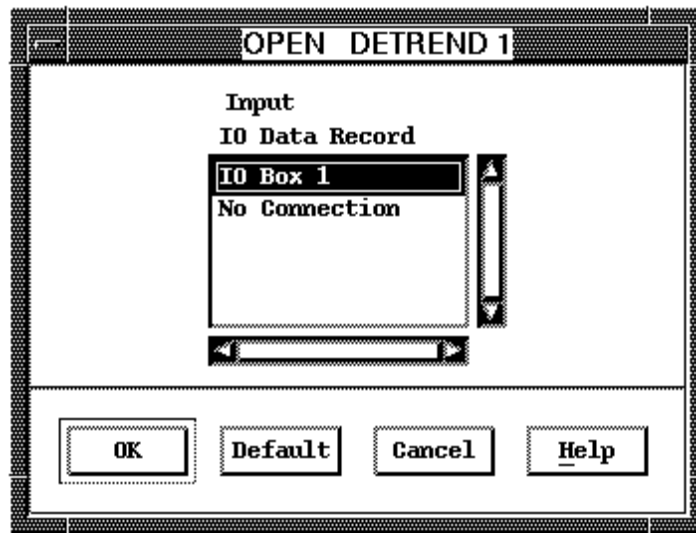

Figure 2.12 The “OPEN” window allows you to connect an open algorithm.
5. Select the menu entry Algorithms → Processing → Detrend/Scale. Selecting this entry changes the cursor from an arrow into a cross and displays a rectangular box that follows the cursor. Click to place the **Detrend/Scale** algorithm on the Chain Plot. This pops up the “OPEN” window in Figure 2.12, which allows you to determine the inputs connecting to the algorithm. You can select the connections either by selecting a data object name in the list or by selecting an icon in the Chain Plot with the left mouse button. We refer the reader to Section 3.3.1 for more details. Select IO Box 1 as the input to the **Detrend/Scale** algorithm.